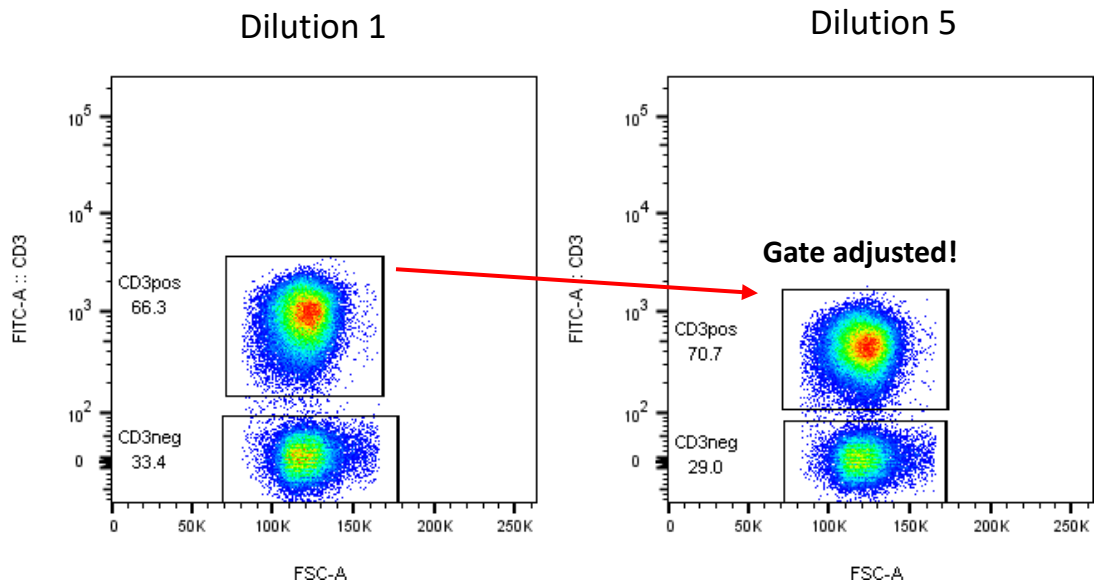

Figure 4 – Example of gate adjusting between dilutions in FlowJo
After you have a positive and a negative population in view, you can begin drawing your gates around each. As you go through your dilutions, you should see your positive population move towards the negative. It is very important that the gates for each sample are adjusted so that they completely surround their corresponding population. The same gate cannot necessarily be copied to every sample as this will give inaccurate results later on. Figure 4 shows how gates are adjusted between dilutions of the same marker.
The gates in Figure 4 were drawn using pseudocolor graphs, gates can also be drawn using histograms or for difficult populations the contour plot can also be used.
2. In the left column of the window, click median, then under “Parameter” choose the correct fluorochrome/channel for the antibody you are titrating. (In the example in Figure 4, CD3 Alexa Fluor 488 was being titrated, so I would choose “FITC-A” since Alex Fluor 488 is measured in the FITC channel).
6. To compile your MFIs and robust standard deviation (SD) into one table, click the “FlowJo” tab in the main window, click “Table Editor” and a new window should appear. Drag the statistics (for example click and drag the “Σ Median...” line) from **one** positive population and **one** negative population to the open white space in the Table Editor window. The robust SD should only come from the negative population. You should now have 3 lines in the Table Editor window, 2 for the medians and 1 for the SD. Click “Create Table” and copy the contents of the new table to Excel.